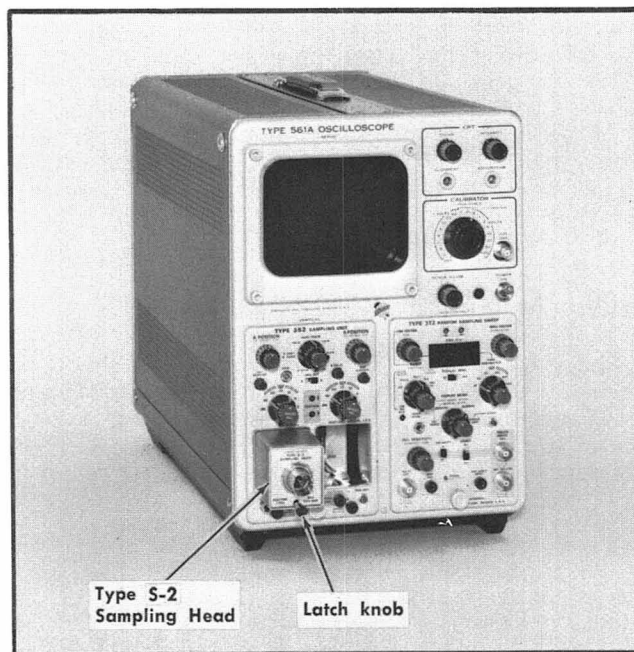

Fig. 2-1. Installation information.
Fig. 2-1 shows the Type S-2 partially installed into a Type 3S2 Sampling Unit with Type 561A Oscilloscope and Type 3T2 Random Sampling Sweep. The sampling head (or heads) can be plugged into the sampling unit as shown, or used remotely on a special extender cable. Three and six foot extender cables are available. Order the three foot extender cable by Tektronix Part No. 012-0124-00, or the six foot extender cable by Tektronix Part No. 012-0125-00. Contact your local Tektronix Field Engineer or Representative for price and availability of these optional accessories.
1. Pull the latch knob (Fig. 2-1) outward from the front panel (the latch knob will push out normally when the unit is inserted if the knob is left free to move).